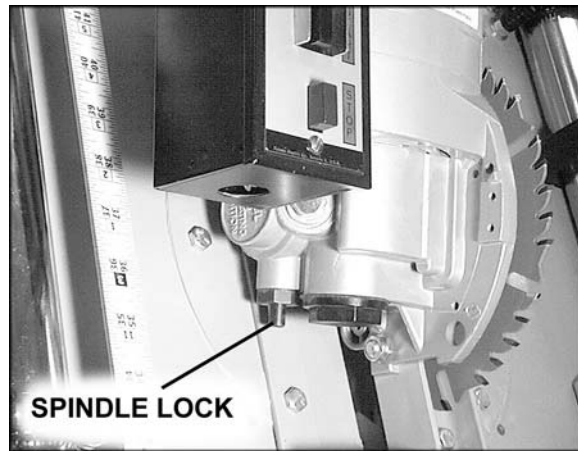
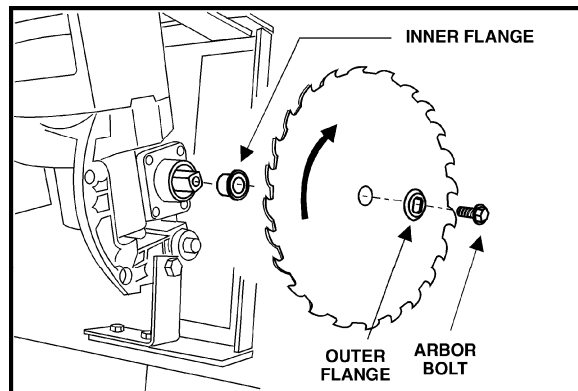

Figure 14
Figure 15
3. Engage spindle lock (Figure 14) on the motor to keep spindle from turning. Use the wrench provided to loosen and remove the arbor bolt (NOTE: left hand threads, turn clockwise to loosen). See Figure 15.
4. Remove outer flange, blade, and inner flange. See Figure 15.
6. Re-install inner flange, and install new blade with arrow pointing as shown in Figure 15. Reinstall outer flange and tighten arbor bolt with wrench.